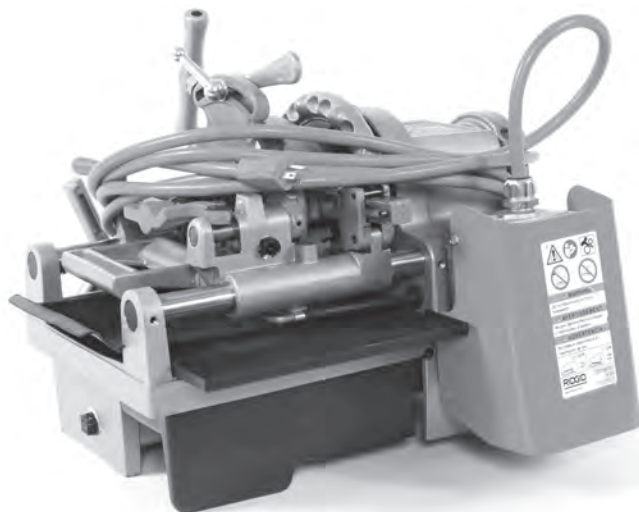

Figure 15 – Machine prepared for Transport
1. Make sure that the ON/OFF (I/O) switch is in the OFF (O) position and the cord is unplugged from the outlet.
4. Coil up the power cord and foot switch cord and hook in the cord wrap. *Figure 15.*